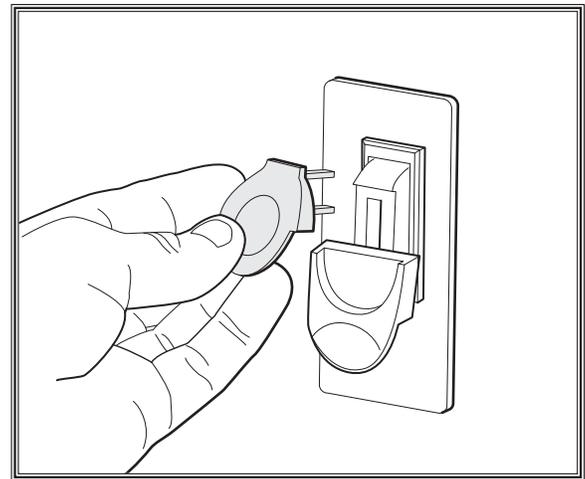

Figure 20. Removing switch key from paddle switch.
6. Remove the switch disabling key (see **Figure 20**).